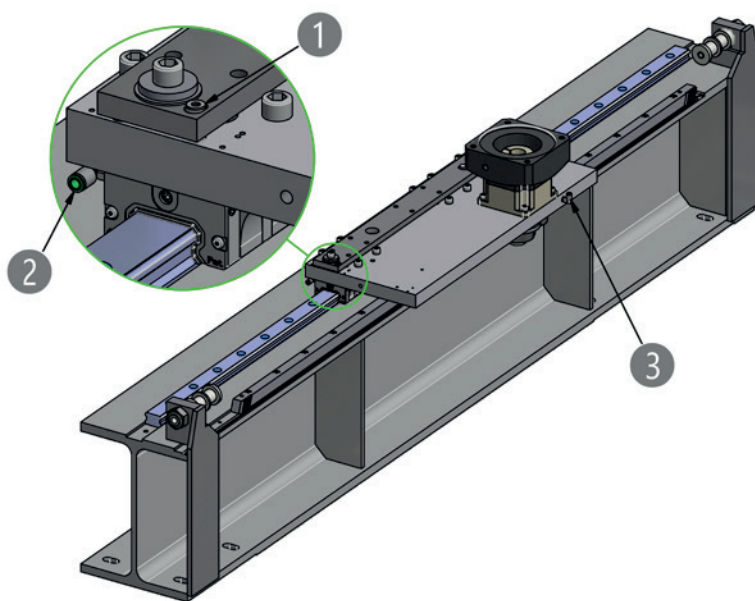

Figure 3.16 \_\_ Position of the cylinder bolt and the lubrication connections of Beam Axis for parallel use
During assembly, the Linear Axis must be aligned in parallel and finally fastened. To activate the compensation system, the cylinder bolt ❶ (Figure 3.16) must then be removed.
The carriages ❷ and the rack and pinion drive ❸ of the Linear Axis AXS120M\_ and AXS300MP are equipped with lubrication connections for central lubrication systems. The position of the lubrication connections are shown in Figure 3.16.